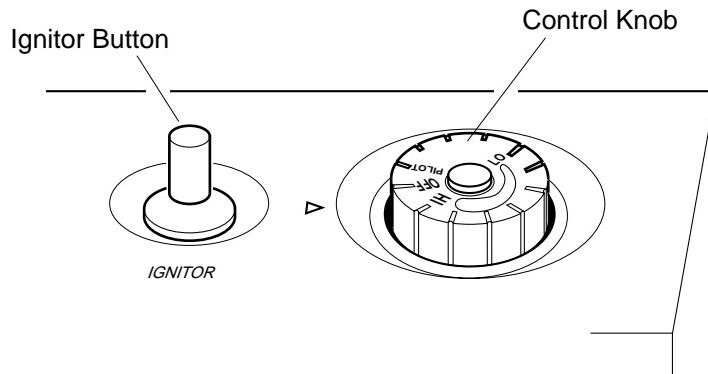

Figure 16 - Control Knob In The OFF Position
4. Wait five (5) minutes to clear out any gas. Then smell for gas, including near the floor. If you smell gas, STOP! Follow "B" in the safety information at the top of page 17. If you don't smell gas, go to the next step.
5. Turn control knob counterclockwise ↪ to the PILOT position. Press in control knob for five (5) seconds (see Figure 16).